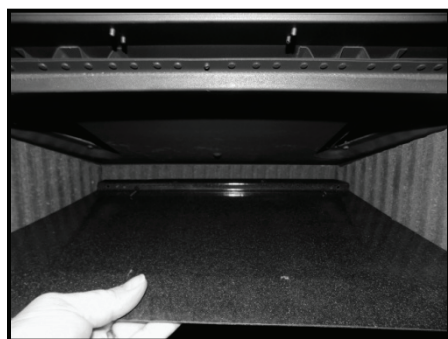

Figure 45
2. Remove two screws from the upper baffle and remove (Fig. 45)